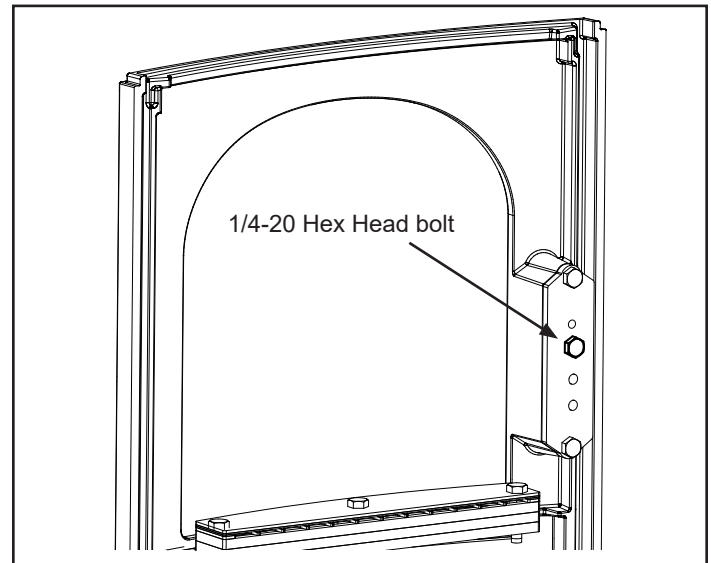

Figure 3.2 - Loosen 1/4-20 Hex head Bolt
1. Slightly loosen the 1/4-20 hex head bolt located at the rear of the latch assembly inside the firebox, Figure 3.2.